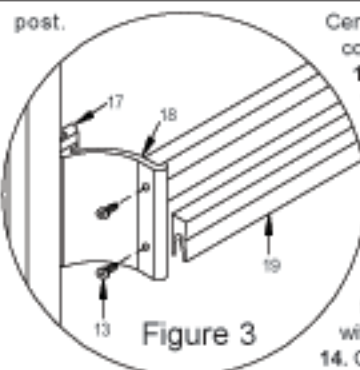

Figure 3
13. Place center guide (7) to center position on sill (6). Make sure the center guide is hooked into the slot position on the sill, then drill a hole using a $\#31$ drill bit and fasten center guide to sill with the $\#6 \times \frac{3}{8}$ " screw (13) provided.
14. Close panels and adjust to align the vertical edge of panels with jamb and post. Using a $\frac{1}{4}$ " box-end wrench, loosen the screws on the rollers, but don't remove completely. When screws are loose, adjust panel by sliding the screw in the slot. **Note:** when screws are loose be sure to support panel so it does not fall and break. Adjust inside slider as low as possible to reduce the gap between bottom of slider and sill taking care that the glass does not drag on the track or center guide. Adjust for bowed glass by using the slotted hole in the jamb. Secure bumpers to the jambs using $6-32 \times \frac{1}{2}$ " screw (5).
15. To set the slider pulls (17) and towel bar brackets (18), first remove any masking tape that was used to hold the vinyl in place. Now on the inside slider, push or gently tap the four pulls (17) into place in the 3" gaps left between the two ends of the glazing vinyl (9).
16. Repeat Step #13 on the outside slider making sure that the towel bar brackets (18) are on the outside. Assemble towel bars (19) to towel bar brackets with four $\#6 \times \frac{3}{8}$ " SMS screws (13). (See Figure 3.)